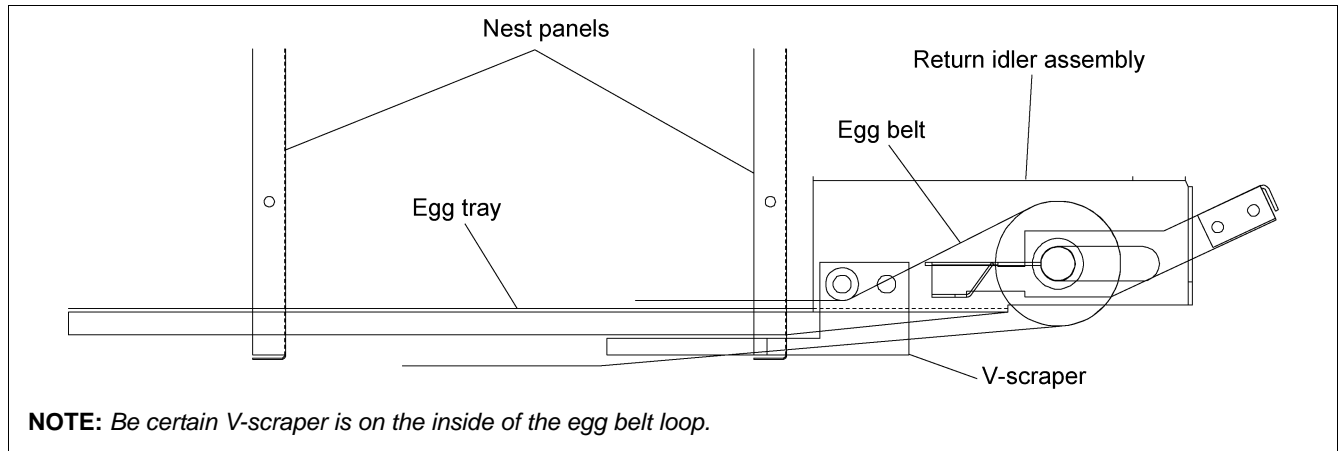

Figure 4X Return Idler Assembly
Mount the return idler assemblies to the last nest's egg tray using four (4) 3/16" steel rivets per return idler. Place the tongue of the return idler under the egg tray and insert rivets from above the egg tray down. (See Figure 4X.) It is suggested to notch out the slats under the V-scraper to keep debris build-up minimized.
4. Thread the belt through the return idler as shown in Figure 4X on Page 34. Attach cord previously ran under the nests to the egg belt. Pull the belt to the drive table using the cord.